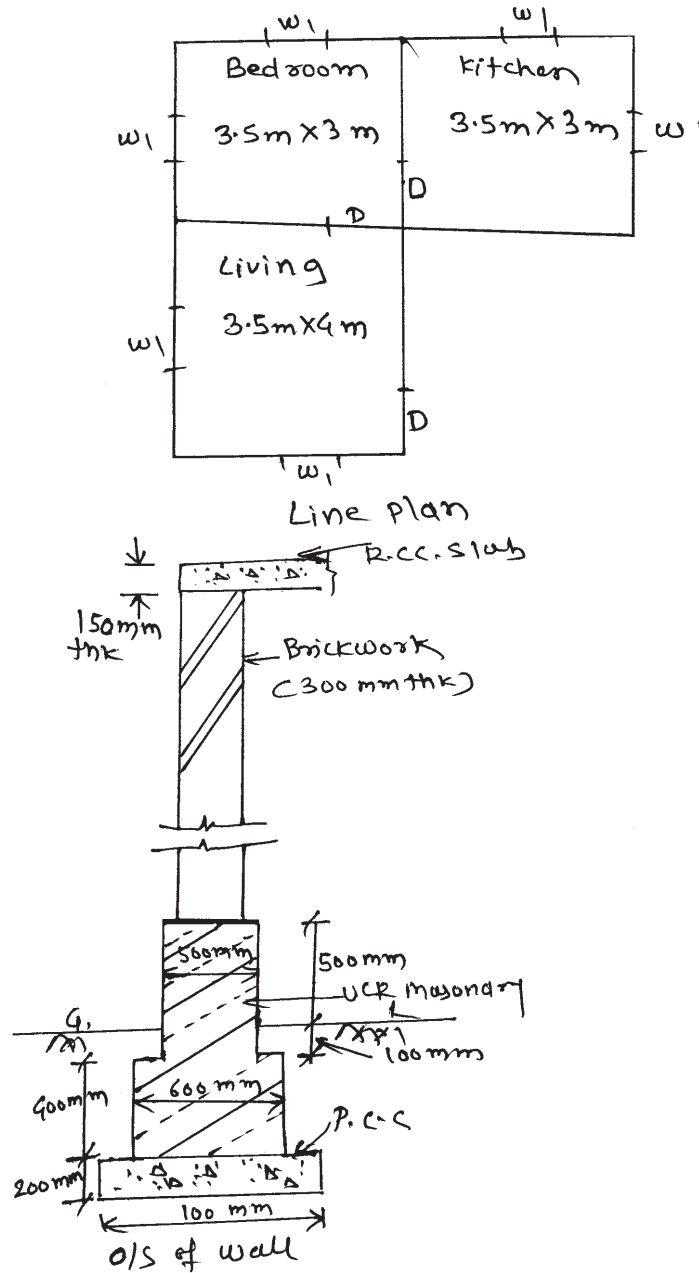

Fig. No. 1
4. a) Workout quantities of any three items of work for Figure No. 1